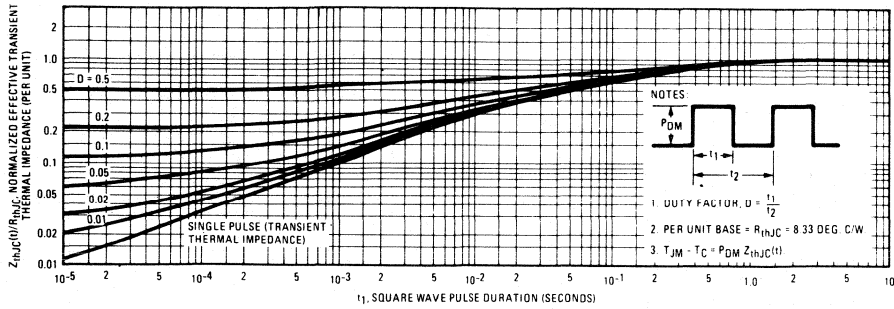

Fig. 5 — Maximum Effective Transient Thermal Impedance, Junction-to-Case Vs. Pulse Duration
- ① $T_J = 25^\circ\text{C}$ to 150°C . ② Pulse Test: Pulse width $\leq 300\mu\text{s}$, Duty Cycle $\leq 2\%$. ③ Repetitive Rating: Pulse width limited by max. junction temperature. See Transient Thermal Impedance Curve (Fig. 5).